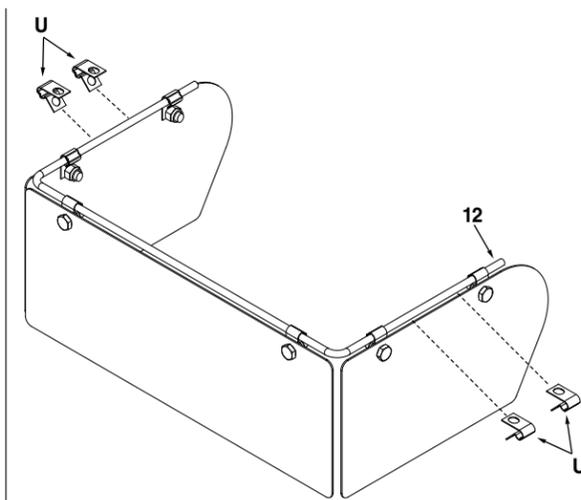

Figure 7
STEP 7: (SEE FIGURE 7)
- Install two 7/32" Bare Clamps (U) onto each side of the deflector frame (12) as shown below. Pinch the clamps (U) together making sure the holes are lining up but make sure the clamps can be adjusted to line up with the spreader frame (5).